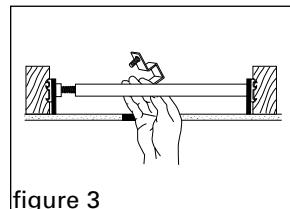
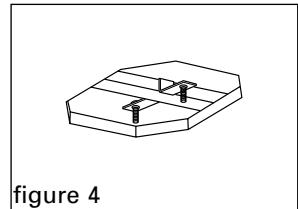

figure 3
figure 4
3. Snap the bracket over the square tube and center it over the hole (figure 3). Make sure the screws are pointed toward the hole in the sheetrock (figure 4).